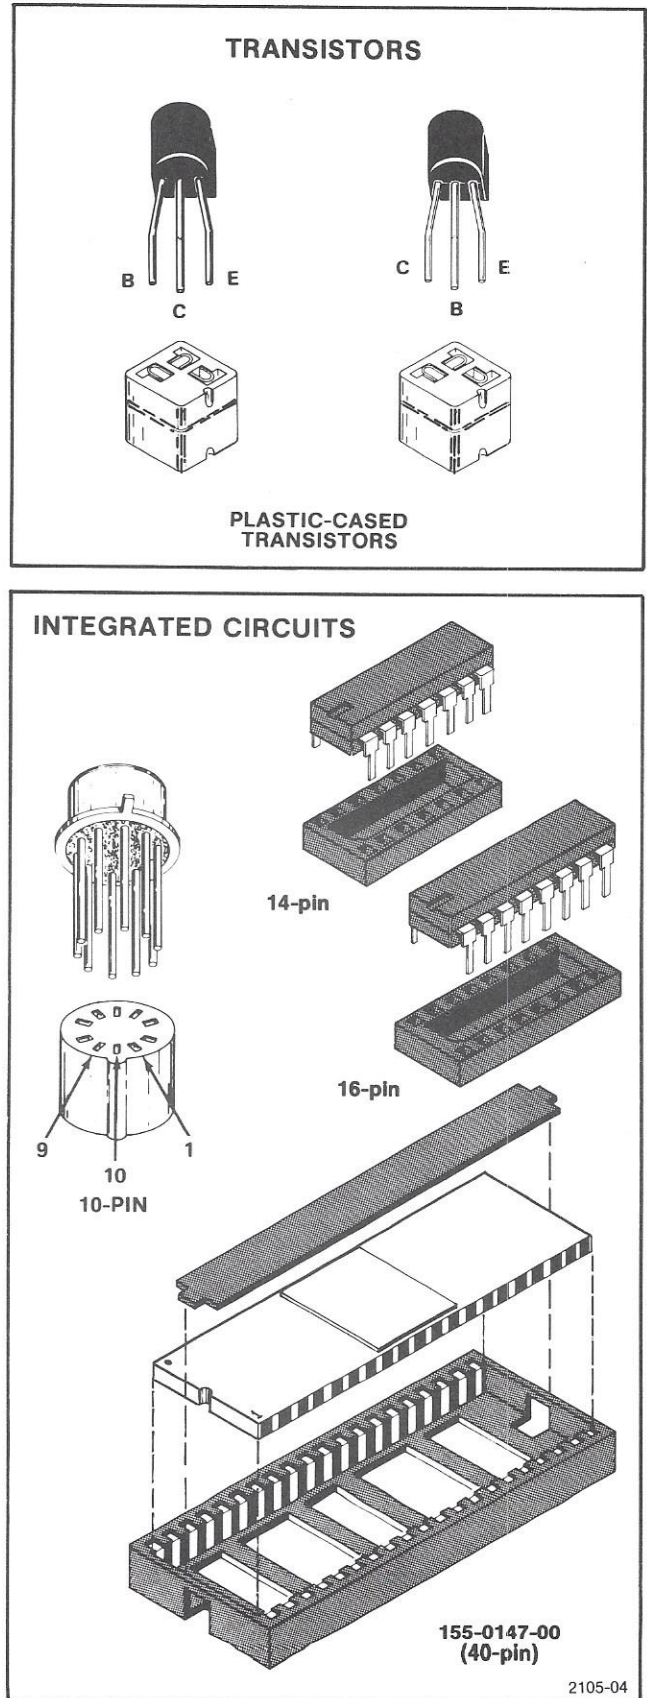

Fig. 6-4. Basing diagrams for semiconductors.
Fig. 6-4 illustrates the lead configurations for the socket-mounted transistors and integrated circuits (IC) used on the circuit board.